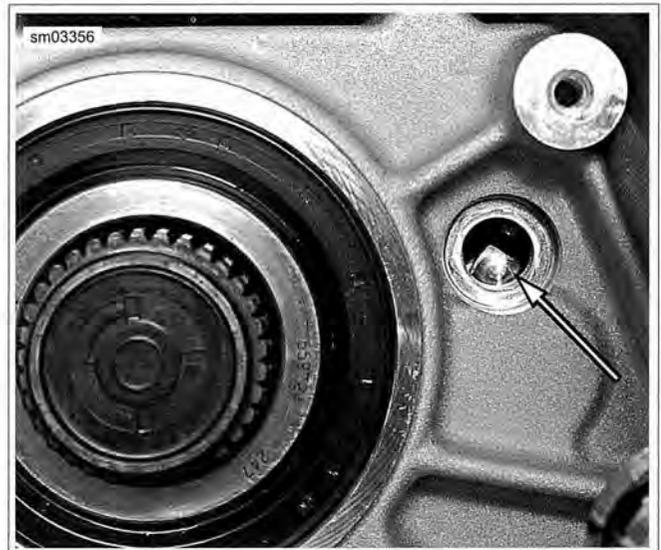

Figure 5-47. Shifter Drum Neutral Detent
9. See Figure 5-47. Verify shifter drum detent is visible in neutral switch hole indicating that transmission is in neutral.